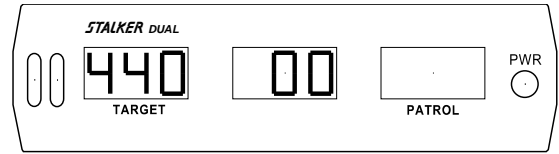

Fig 26
To enter or exit Stopwatch mode, using the ergonomic remote, press and hold the **STOPWATCH MODE** key for two seconds. The **STOPWATCH MODE** key toggles the radar between Radar mode and Stopwatch mode. The display changes when the **STOPWATCH MODE** key is pressed indicating the operating mode. Fig 26 shows a typical display following entry into Stopwatch mode. The 440 Meters display will normally be a different number – depending upon its previous setting.
1. Enter Stopwatch mode using the ergonomic remote control by pressing and holding the **STOPWATCH MODE** key for two seconds (Fig 26).